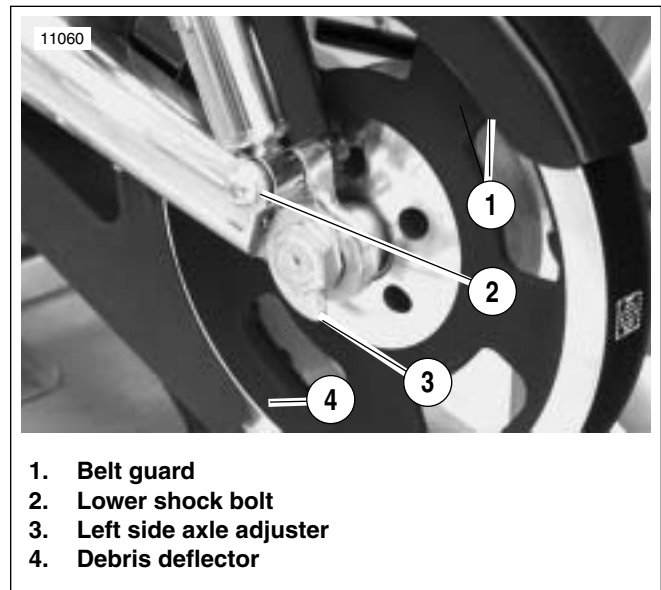
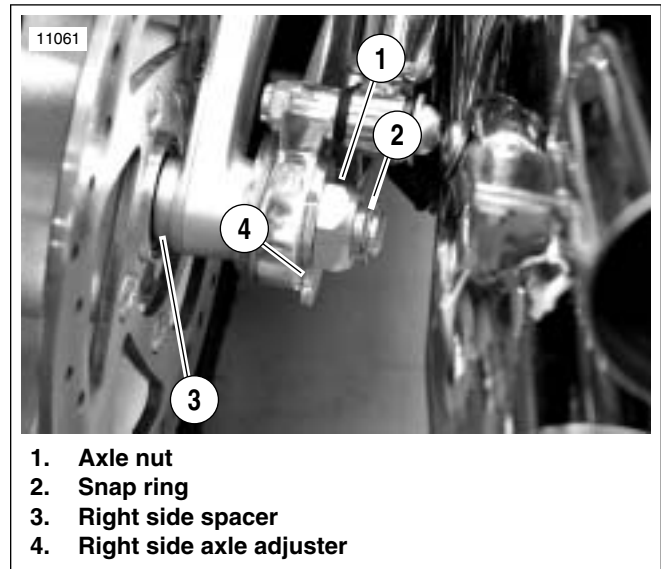

Figure 2-82. Rear Axle: Left Side (typical)
Figure 2-83. Rear Axle: Right Side (typical)
3. See Figure 2-82. Remove fasteners holding lower debris deflector (4) to rear fork. Remove debris deflector.
4. If necessary, remove fasteners holding belt guard (1) to rear fork. Back lower shock bolt (2) out until belt guard is free and remove belt guard. Shock bolt retaining threads are integral to belt guard. Leave shock bolt in place to maintain alignment.
5. See Figure 2-83. Remove snap ring (2), axle nut (1) and adjuster (4) from right side of axle.